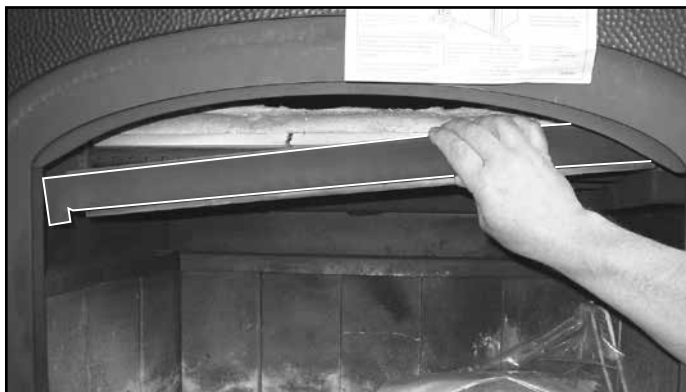

Figure 4.5 Removing Baffle Protection Channel
- Remove the baffle protection channel by turning it down and pulling it out of the firebox. See Figure 4.5.